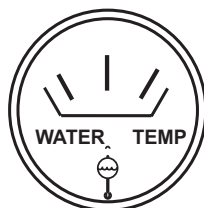

Figure 48. Coolant Temperature Gauge
14. The coolant temperature gauge (Figure 48) will indicate the coolant temperature. Under normal operating conditions the coolant temperature is between 165 and 215 degrees Fahrenheit.